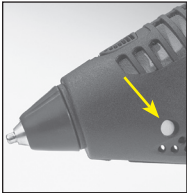

Figure 6
4. The Ignition Indicator will glow red indicating the gun is heating (Figure 6). Once the gun has reached maximum temperature, the indicator will cycle on and off as the gun heats under thermostat control.